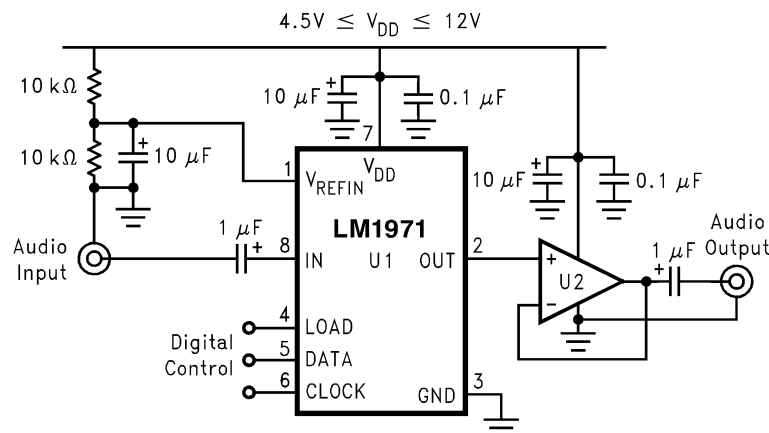

Figure 1. Typical Audio Attenuator Application Circuit
**VREFIN (1):** The VREFIN pin provides the reference for the analog input signal. This pin should be biased at half of the supply voltage, VDD, as shown in Figure 1 and Figure 19.
**OUT (2):** The attenuated analog output signal comes from this pin.
**GND (3):** The GND pin references the digital input signals and is the lower voltage reference for the IC. Typically this pin would be labeled "VSS" but the ground reference for the digital logic input control is tied to this same point. With a higher pin-count there would generally be separate pins for these functions; VSS and Logic Ground. It is intended that the LM1971 always be operated using a single voltage supply configuration, for which pin 3 (GND) should always be at system ground. If a bipolar or split-supply configuration are desired, level shifting circuitry is needed for the digital logic control pins as they would be referenced through pin 3 which would be at the negative supply. It is highly recommended, however, that the LM1971 be used in a unipolar or single-supply configuration.
**LOAD (4):** The LOAD input accepts a TTL or CMOS level signal. This is the enable pin of the device, allowing data to be clocked in while this input is low (0V). The GND pin is the reference for this signal.
**DATA (5):** The DATA input accepts a TTL or CMOS level signal. This pin is used to accept serial data from a microcontroller that will be latched and decoded to change the channel's attenuation level. The GND pin is the reference for this signal.
**CLOCK (6):** The CLOCK input accepts a TTL or CMOS level signal. The clock input is used to load data into the internal shift register on the rising edge of the input clock waveform. The GND pin is the reference for this signal.
**VDD (7):** The positive voltage supply should be placed to this pin.
**IN (8):** The analog input signal should be placed to this pin.